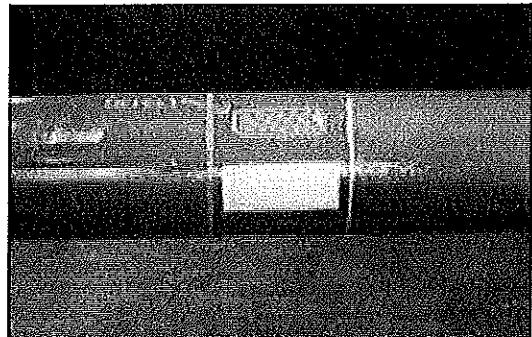

Figure 4
- 4.5 Remove the Clock Spring® dry wrap and attach the starter pad (Figure 4). Center the starter pad within the "marked" repair area about 4 – 6 inches (102 – 152 mm) from the primary defect area with the "easy peel" side towards the ground. If condensation exists on the pipe surface refer to Appendix E. For severe weather conditions refer to Appendix F. For deformation defects or extensive cluster corrosion, refer to Appendix G for single wrap mold instructions.